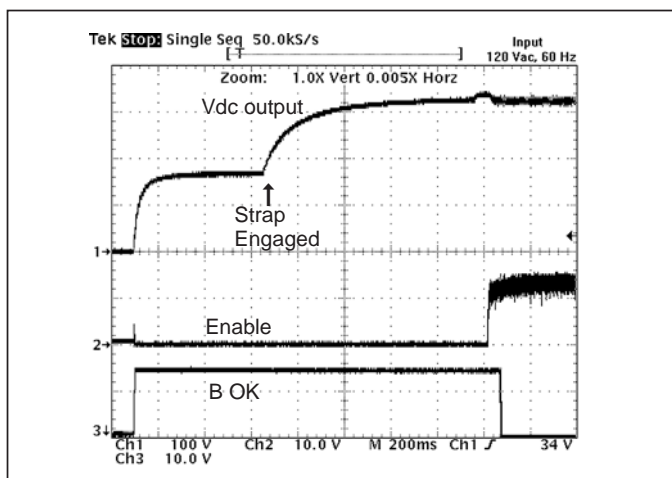
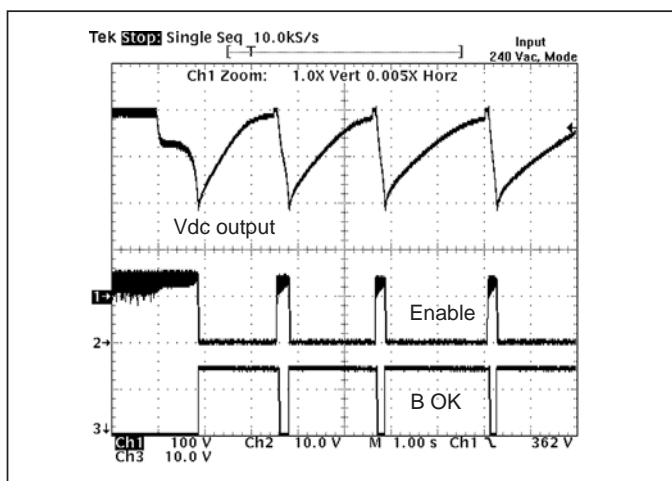

Figure 3—Start-up at 120 Vac input
Figure 7—Output overvoltage protection 240 Vac range
■ INPUT SPECIFICATIONS (see Figure 3 thru Figure 7 for operating characteristics)